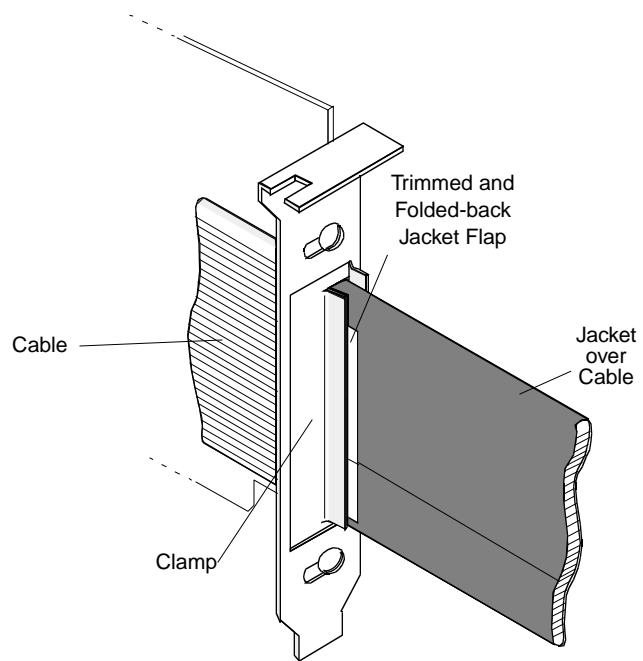

Figure 7. Detail of Clamped Cable Showing Installed Jacket
8. Re-install the clamp and clamp-adjusting screws so that the clamp holds the cabling firmly in place while bearing firmly on the shield surface of the jacket flap, as shown in Figure 7.